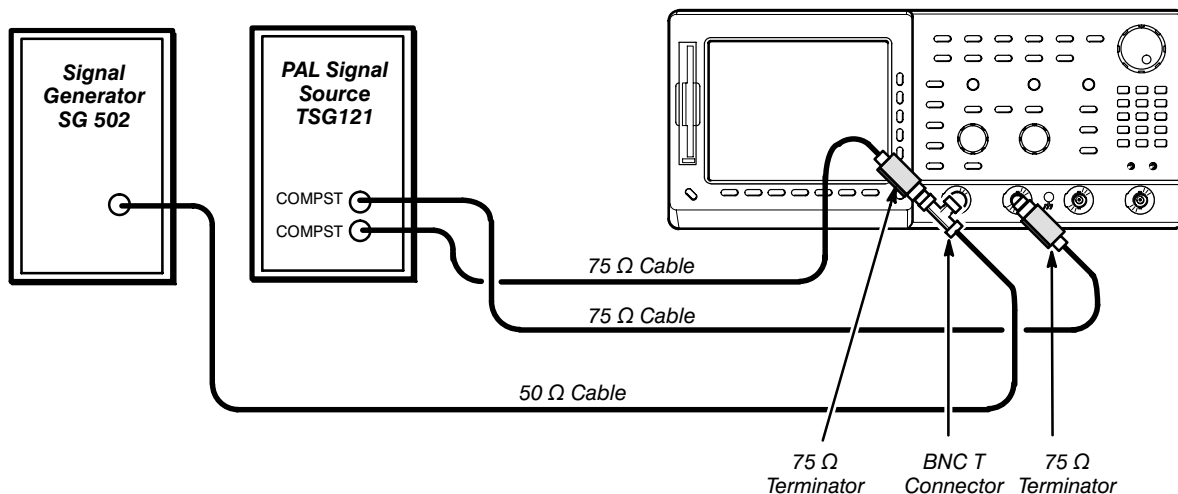

Figure 1-34: Subsequent 60 Hz Rejection Test Hookup
- Reconnect the output of the signal generator (SG 502). Connect the PAL signal source's composite signal connector (labelled **COMPST** on the TSG 121) to a 75 Ω cable and a 75 Ω terminator. Connect both signals to the CH1 input through a BNC T (See Figure 1-34).
- Connect another the PAL signal source's composite signal connector (labelled **COMPST** on the TSG 121) through a 75 Ω cable and a 75 Ω terminator to the CH2 input (See Figure 1-34).